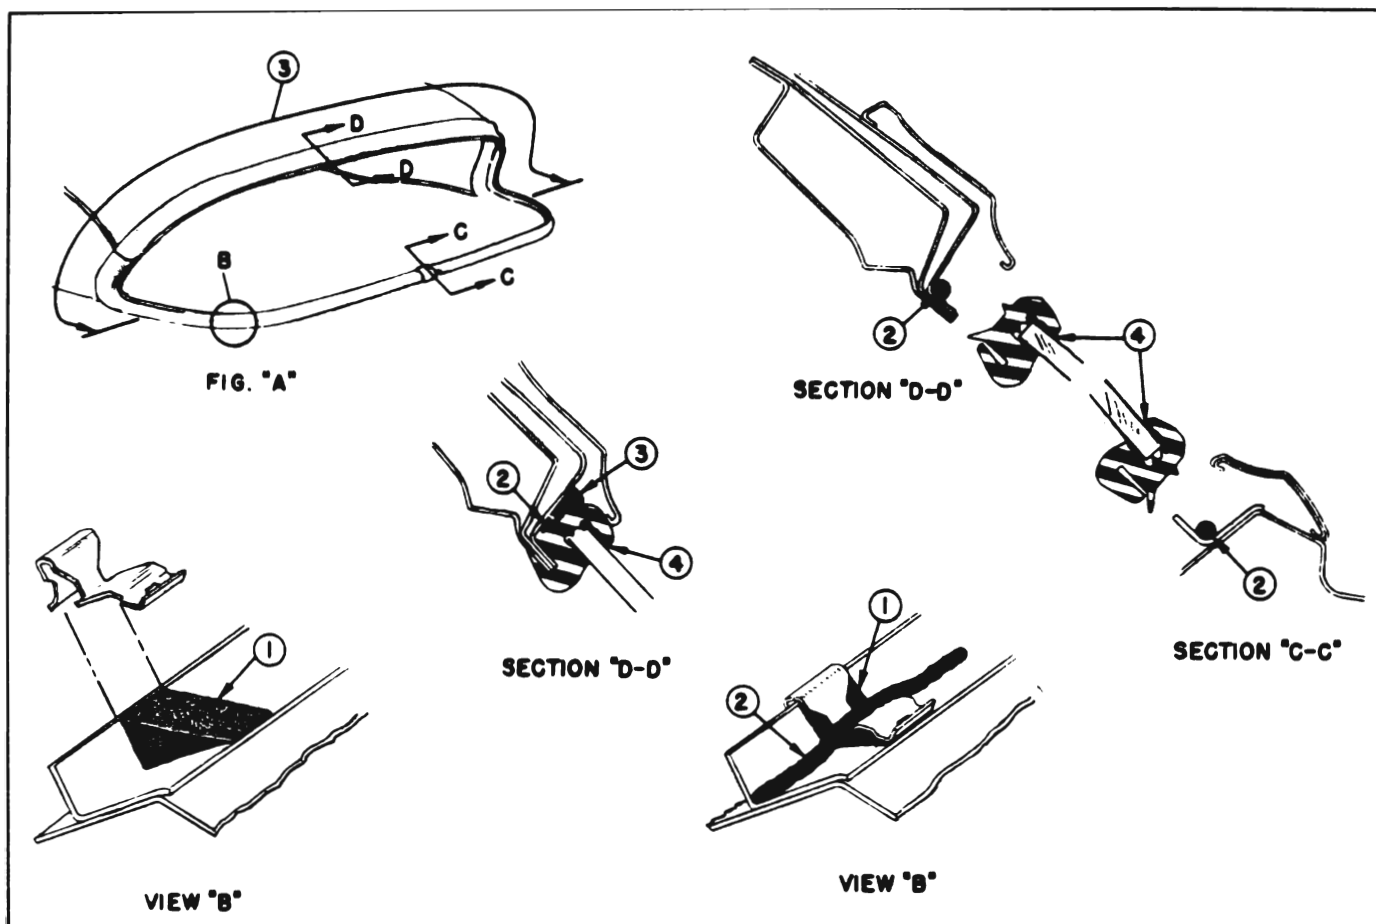

Figure 13-243—Installation Back Window Assembly
7. Check installation of molding clips at outboard ends of lower pinchweld flange. If replacing clips, apply sufficient medium-bodied sealer to opening rabbet at clip locations as shown at "1" in Figure 13-243 and install clips.
8. Apply a continuous bead of medium-bodied sealer in corner of pinchweld flange as shown at "2" in Figure 13-243 completely around back window opening.
12. Using a pressure type gun completely fill cavity between rubber channel and body across top and around corners of back window opening as indicated by "3" in Figure 13-243.
14. Apply approved weatherstrip cement between glass and outer lip of rubber channel, as indicated by "4" in Figure 13-243, completely around perimeter of glass.